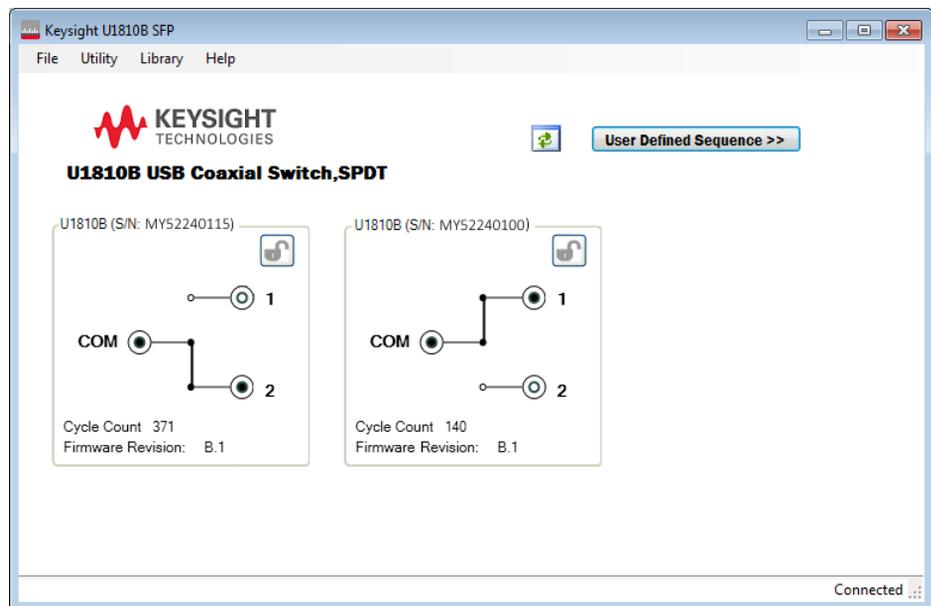
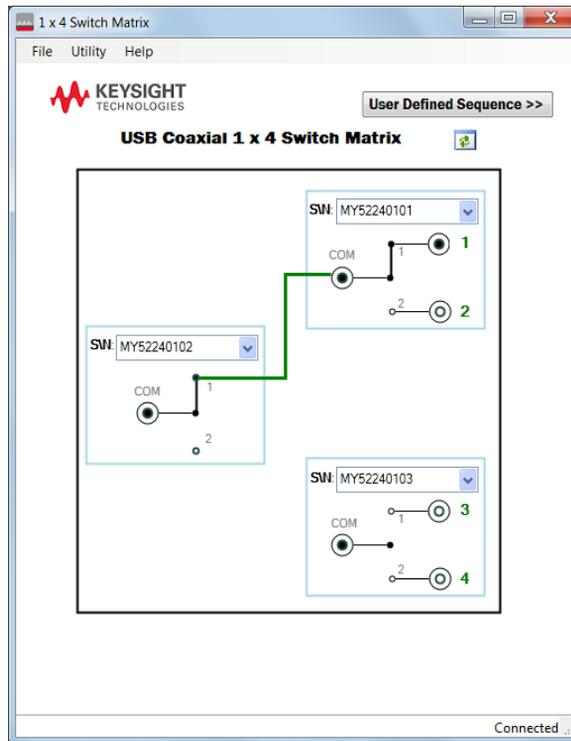

Figure 4-4 U1810B main SFP interface
Figure 4-5 1 x 4 Switch Matrix window
- On the U1810B main SFP interface as shown in **Figure 4-4**, click either Port 1 or Port 2 of the switch to make a connection with the Common (COM) port.
On the U1810B main SFP interface as shown in **Figure 4-4**, click **Library > 1 x 4 Switch Matrix** from the menu bar to open the 1 x 4 Switch Matrix window, as shown in **Figure 4-5**.
- On the main SFP interface as shown in **Figure 4-4**, click **Utility > Clear Cycle Count** from the menu bar to open the Clear Cycle Count window as shown in **Figure 4-7**.
- On the main SFP interface as shown in **Figure 4-4**, click **Utility > Reset** from the menu bar to reset the U1810B.
- On the main SFP interface as shown in **Figure 4-4**, click **Utility > Driver Call Log** from the menu bar to open the Driver Call Log window as shown in **Figure 4-8**.